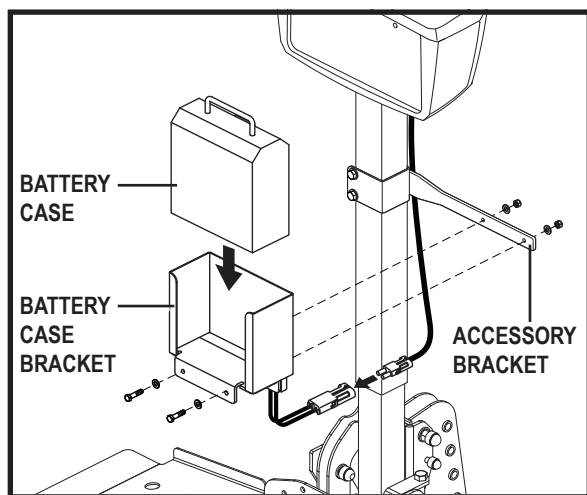

Figure 9. Onboard Battery Installation
3. Align the mounting holes in the battery case bracket with those in the accessory bracket. **See figure 9.**
4. Secure the battery case bracket to the accessory bracket with the supplied hardware. **See figure 9.**
6. Plug the battery cord on the bottom of the battery case into the mating connector running from the motor. **See figure 9.**